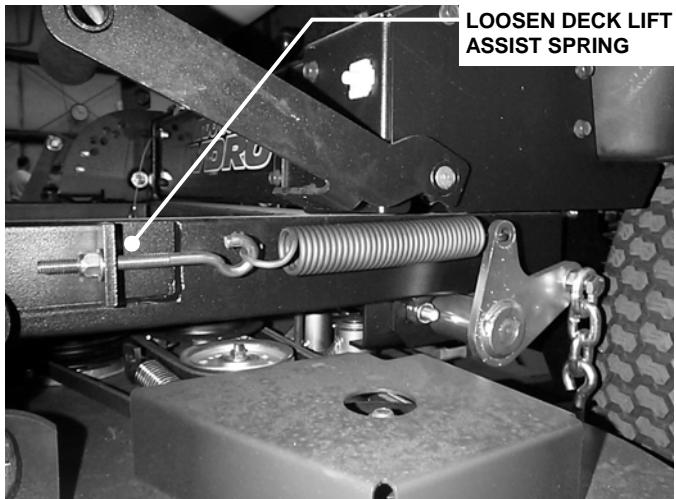

FIGURE 4.9
1. Move deck lift lever and set the mower deck to the highest cutting position. See Figure 4.9.
2. IMPORTANT - STORED ENERGY. Relieve tension on deck lift assist spring by backing off nut on eyebolt. Failure to relieve tension could result in personal injury. See Figure 4.9.
4. Move deck lift lever and set the mower deck to a lower cutting position until deck rests on wooden blocks. Position the deck to where there is no tension on the deck hanger chains. See Figure 4.9.
10. Reinstall deck lift assist spring. Place deck in highest cutting position. Tighten nut on eyebolt until 1 1/4" of threads (2 1/4" for 61" decks) protrude past end of nut. See Figure 4.9.